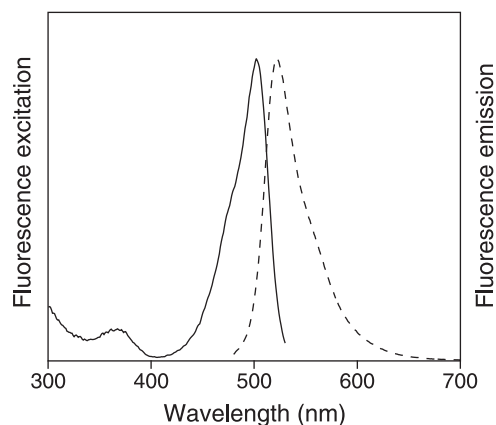

Figure 1. Excitation and emission maxima for the Quant-iT[™] dsDNA HS reagent bound to DNA.
Approximate fluorescence excitation/emission maxima: 502/523 nm (see Figure 1, page 2)
- 1.5** Measure the fluorescence using a microplate reader (excitation/emission maxima are 502/523 nm; see Figure 1, page 2). Standard fluorescein wavelengths (excitation/emission at ~480/530 nm) are appropriate for this dye. The fluorescence signal is stable for 3 hours at room temperature.